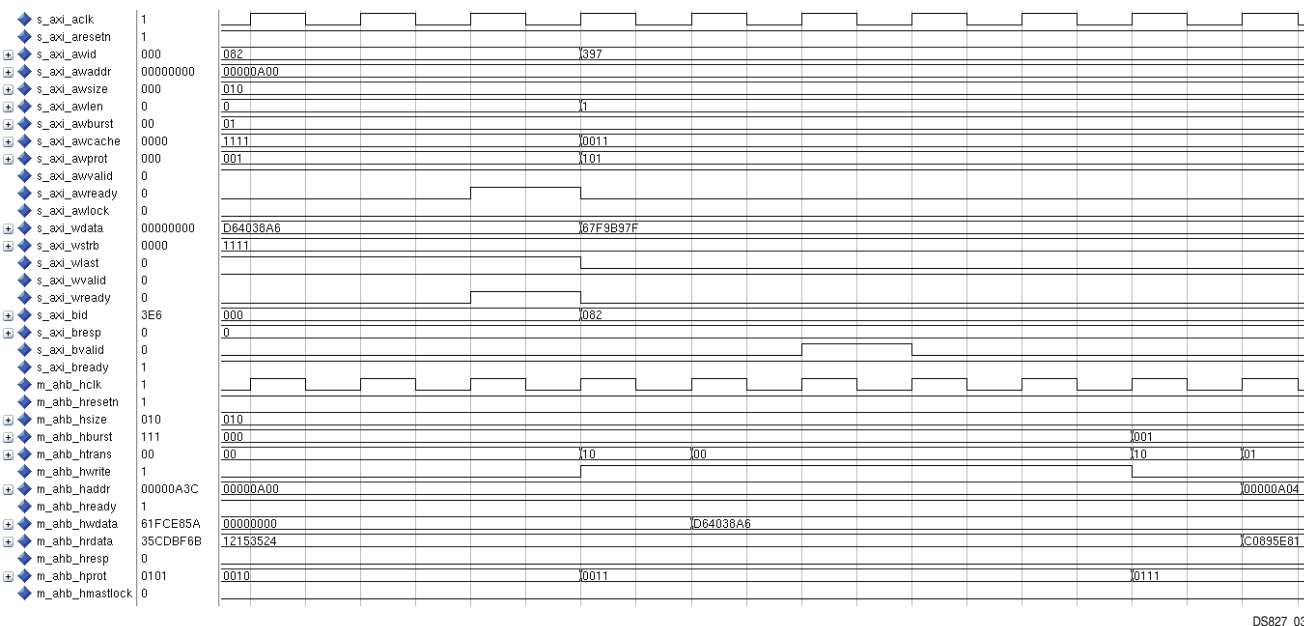

Figure 3: AXI Incrementing Burst Write Transfer of Length 1
2. AXI incrementing burst write transfer of length 1 is shown in Figure 3.